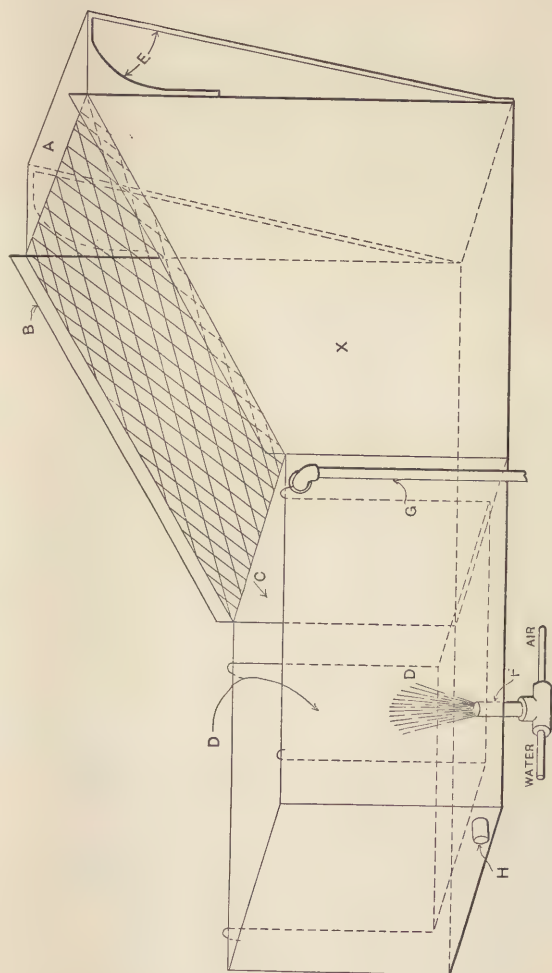

Fig. 3. Tank for Casehardening Work.
**Tank for Casehardening Work.**—The best kind of a tank for receiving work from the casehardening furnace is shown in Fig. 3. In taking the boxes from the furnace set them on the steel plate *A*, supported by the braces *E*. Remove the cover from the box and dump contents on sieve *B*. The bone, or whatever the work is packed in, falls through the sieve to the bottom of tank *X*, while the parts to be hardened roll into the water at *C*. Another sieve is suspended in the water by small steel rods. After the work is all dumped this inner sieve can be drawn up and the hardened pieces taken off, clean, ready to be delivered to the department they are intended for. This is much better than dump-
In Fig. 3 *F* is the inlet for water; *G* the overflow; *H* the outlet for cleaning the tank, which should be done once a week. There should be a steady flow of water at all times when dumping. The air connection to the supply pipe is for use in mottling and coloring as will be explained later.